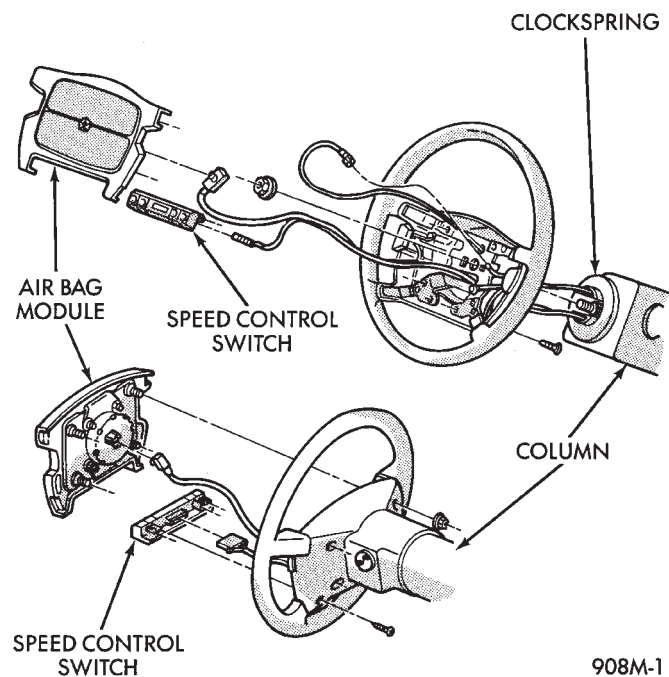

Fig. 5 Air Bag Module
- (1) Disconnect battery negative cable and isolate.
- (2) Wait two minutes for the reserve capacitor to discharge before removing undeployed module.
- (3) Remove four nuts attaching air bag module to steering wheel (Fig. 5).